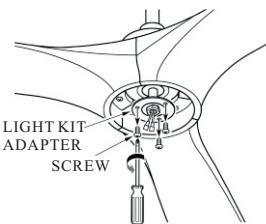

FIG.12
1. Remove the 3 screws on light kit adapter.(See fig.12)